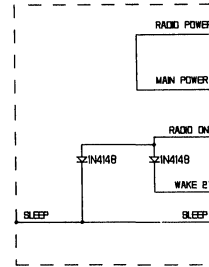

Fig.16a RADIO SWITCHING BY BIAS CHANGE
- Option 1 (Fig.16A, 16B) Direct audio amplifier control (no active components)